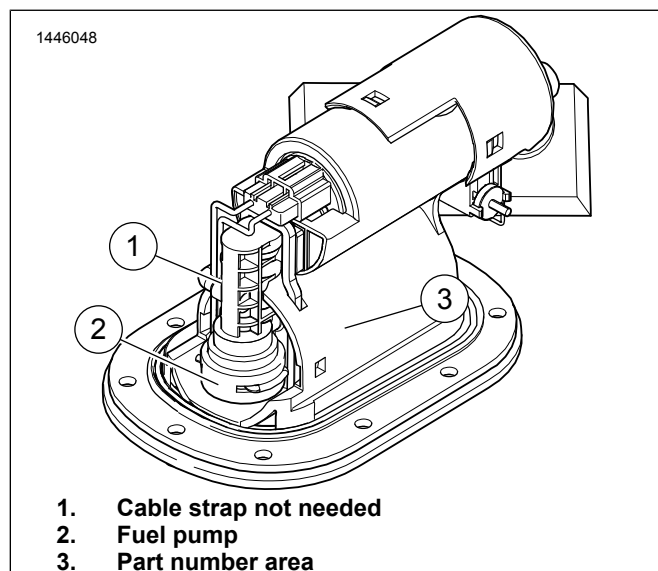

Figure 3. Fuel Pump - 61200001B
- See Figure 3. **61200001B**: This fuel pump is designed without a cable strap (1) installed on the pump, cable strap is not need. The part number is etched (3) on updated fuel pump.